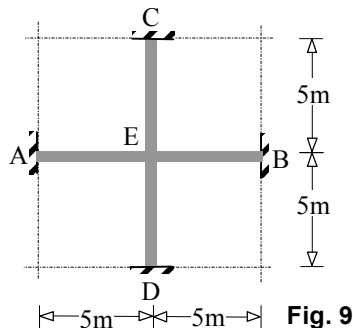

Fig. 9
7. Consider the symmetric grid system (plan view) shown in Fig. 9, with all the elements subjected to uniformly distributed gravity loading of 12 kN/m and having uniform flexural rigidity $EI = 27000 \text{ kNm}^2$ and torsional rigidity $GJ = 0.2EI$. Taking advantage of symmetry and adopting any method of your choice, find the deflection at the centre E and draw the bending moment diagram and probable deflected shape of a typical element AE.